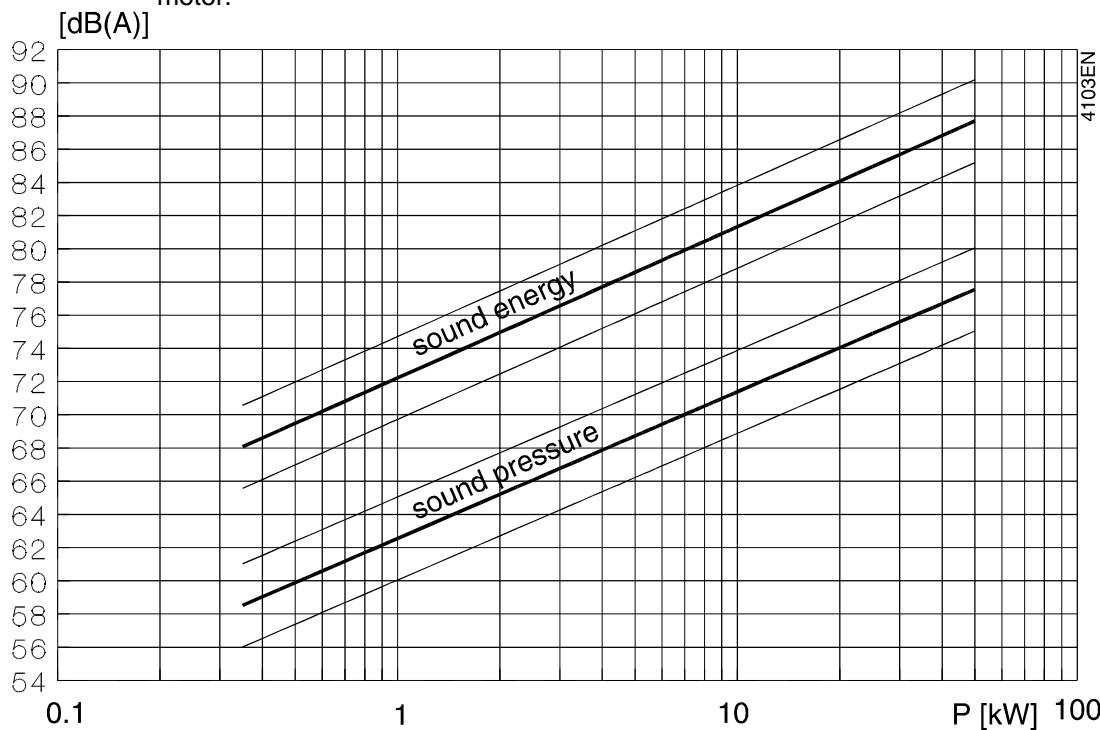

figure 70 Noise level as function of pump power [kW] at 1450 min^{-1} .
- 1 Determine the noise levels (L_1 and L_2), of the pump (using figure 70 or 71) and the motor.